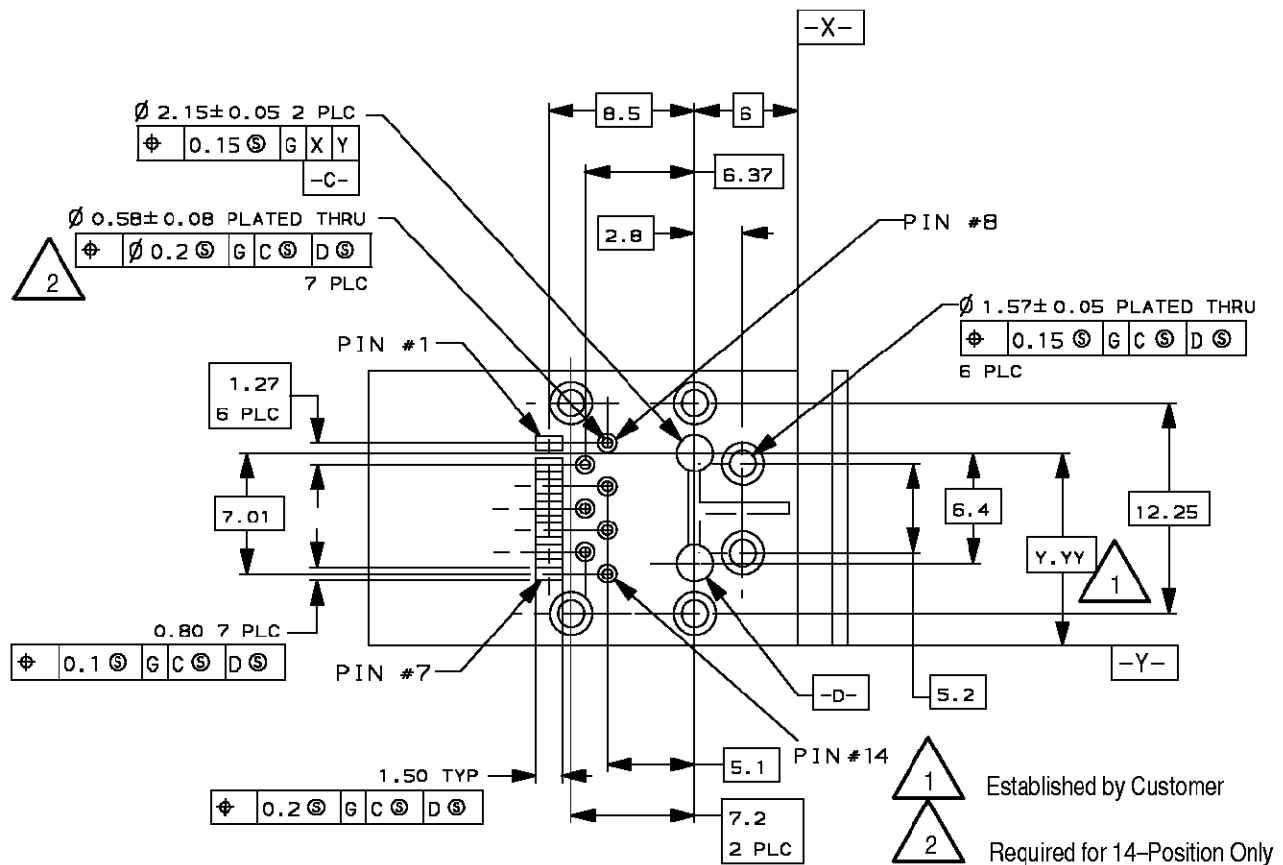
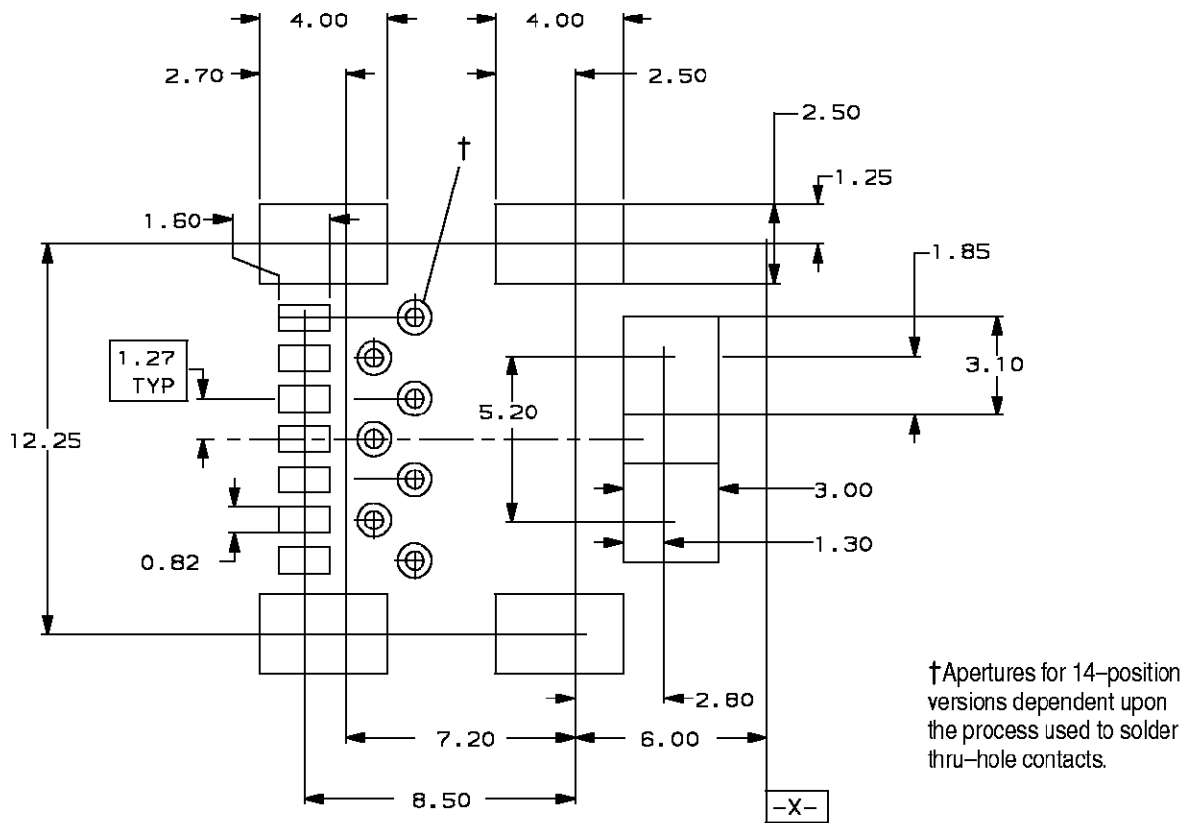

Figure 4
Figure 6
3. If a solder mask is used, it must allow full clearance around the pads as defined in Figure 4.
Recommended pc board patterns and dimensions, as well as tolerance, are provided in Figure 4. The contact pads, standoffs, and boardlocks must be precisely located to ensure proper placement and optimum performance of the connector. The layout shows the top (connector) side of the pc board. Datums and basic dimensions are established by the customer.
Stencil aperture will be determined by the thickness of the stencil being used. Generally, the thinner stencils will have a larger aperture to maintain a given volume of solder paste. Solder deposition should be within the pad area of the contact tines. Typical horizontal and vertical aperture openings are shown in Figure 6. If the aperture dimensions on the stencil are the same as the nominal pad dimensions shown in Figure 4, stencil thickness can be calculated with the following relation: